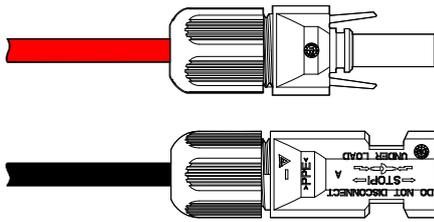

Figure3-21 Tighten the lock nut
Step 4 Tighten the locking nuts of the positive and negative connectors to corresponding insulating shells, as shown in Figure3-21.